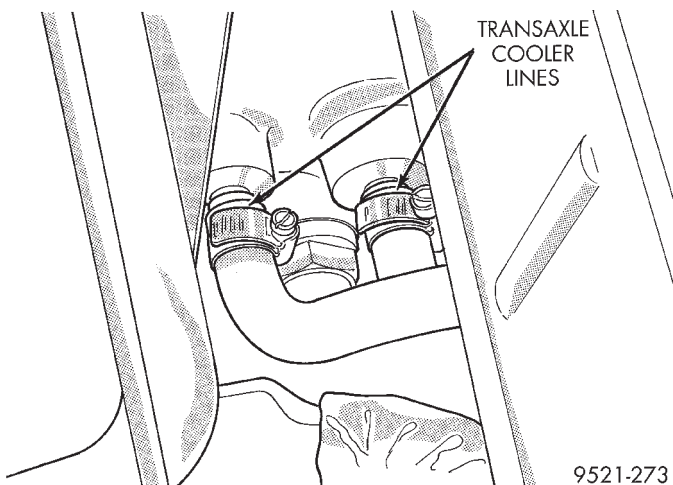

Fig. 42 Transaxle Cooler Lines
- (5) Remove dipstick tube.
- (6) Remove transaxle cooler lines (Fig. 42).